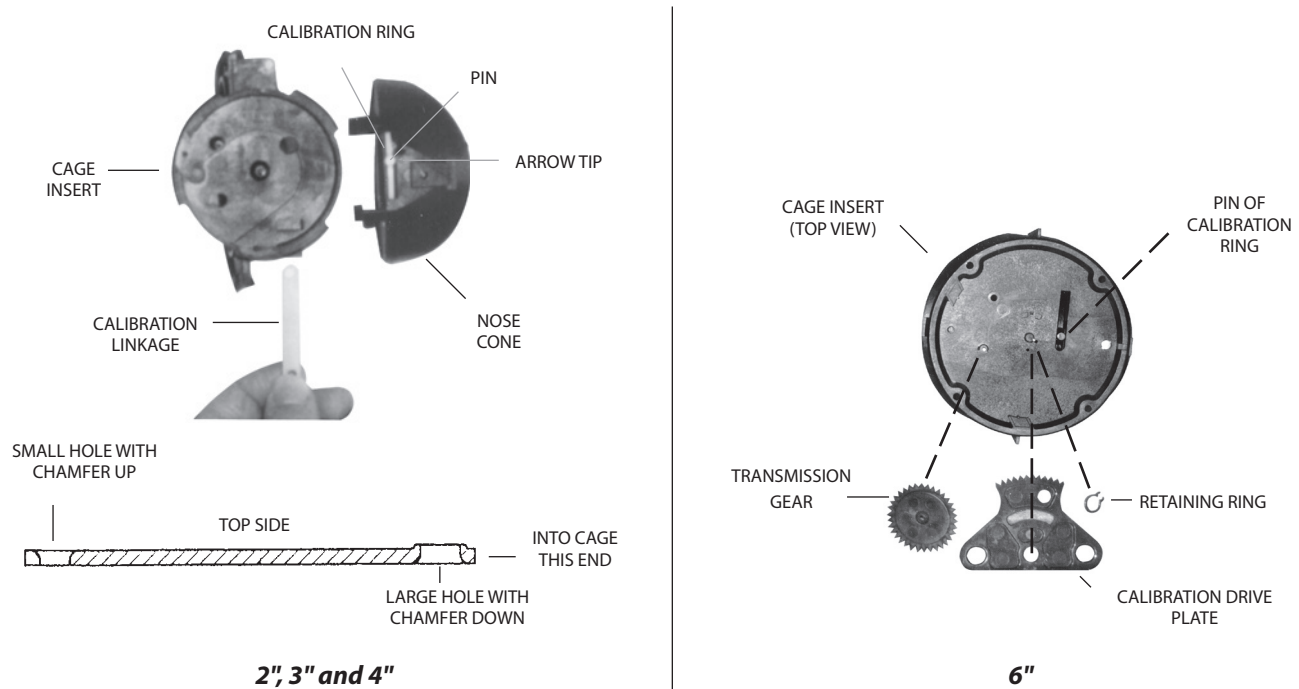

Figure 11: Calibration ring/linkage assemblies
1. Align the pin on the perimeter of the calibration ring with the arrow tip located on the nose cone assembly (see Figure 11 on page 15).
2. For 2", 3" and 4" sizes, install the calibration linkage into the cage with the larger hole to engage the calibration ring tab, with the side of chamfered edge of the hole towards the nose cone assembly (see Figure 11 on page 15).